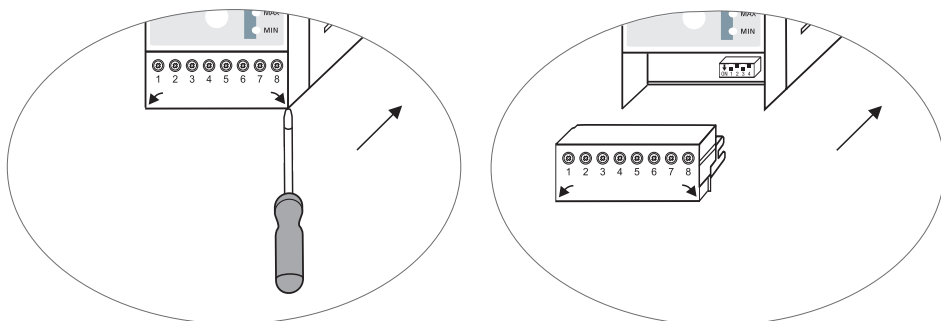

Fig. 8
- Remove the upper and lower terminal strips. **Fig. 8**